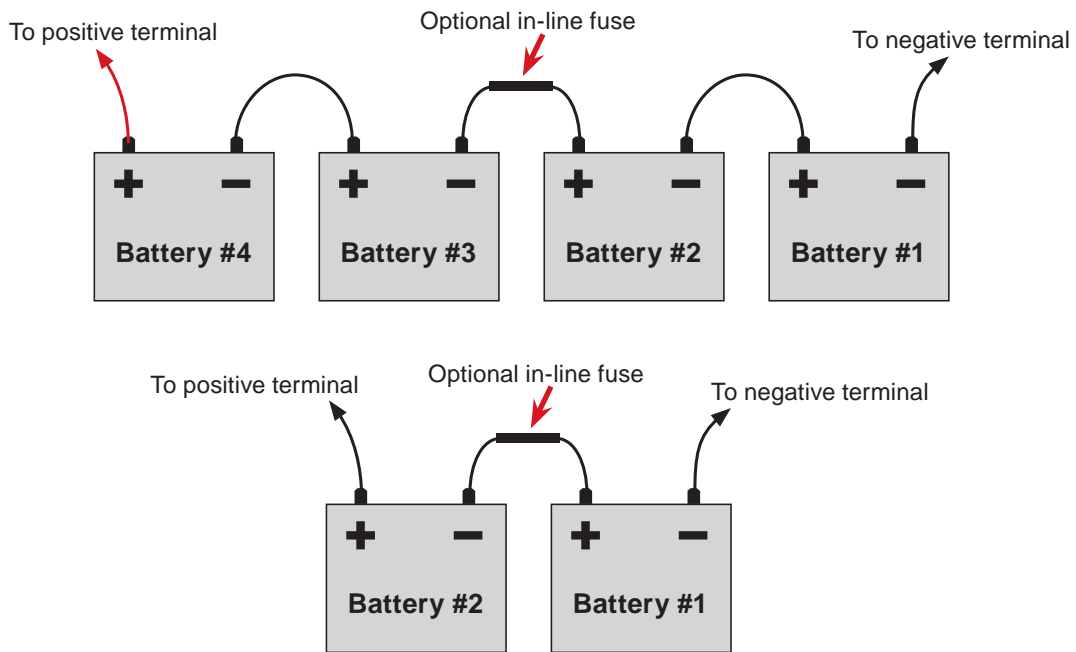

Figure 8 — External Battery Wiring (for 48 Vdc string (top) and 24 Vdc string)
**NOTE:** The optional in-line fuse option shown in Figure 8 on page 22, is available as part number SPB98-645-1, Kit, FuseUpgrade, 100A.
3. Connect the batteries as shown in Figure 8 on page 22. If used, install the in-line fuse as shown.